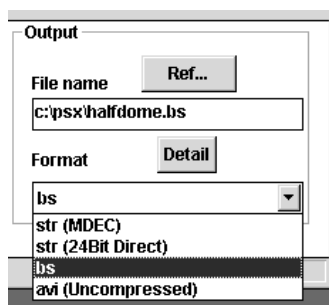

Figure 2 — Output Format Popup Menu
- 2) The output filename is not complete because we still haven't specified the output format. Click on the *Format* popup menu in the *Output* section and select the “BS” format, as shown in *Figure 2*.